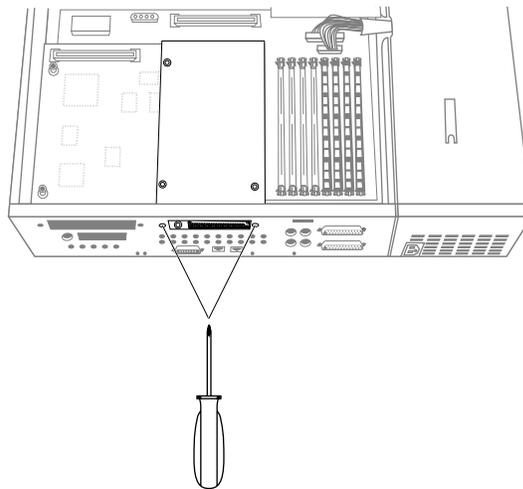

Figure 3-5 Inserting the Screws on the Rear Panel
- Using the Phillips screwdriver, insert and tighten the two screws in the locations shown in Figure 3-5.